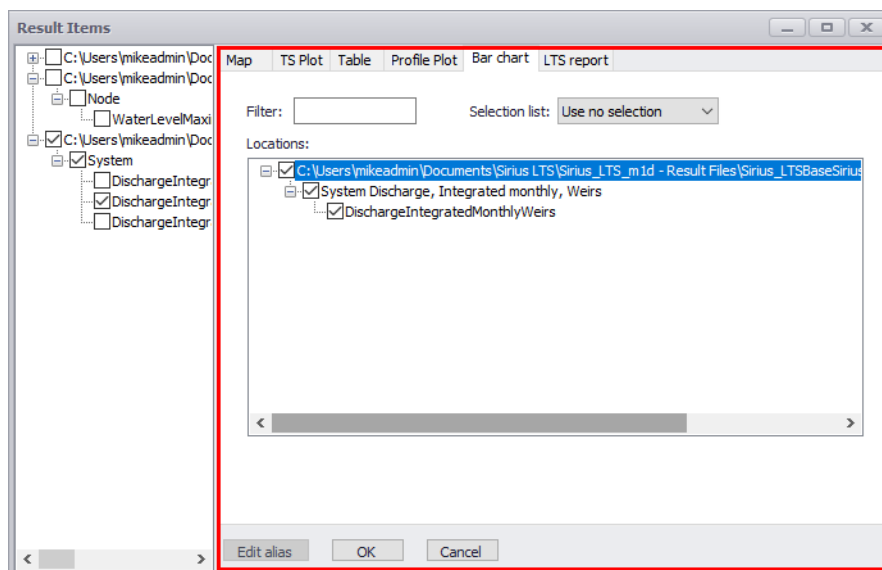

Figure 20.67 The Bar Chart tab on the Result Items dialog
- Access the ‘Bar Chart’ tab on the ‘Result Items’ dialog (Figure 20.67).
- Select the items and locations which shall be plotted on a bar chart (Figure 20.67). Note that it is not possible to customize data series labels (i.e. Edit alias) for bar charts, nor is it possible to edit existing bar charts.